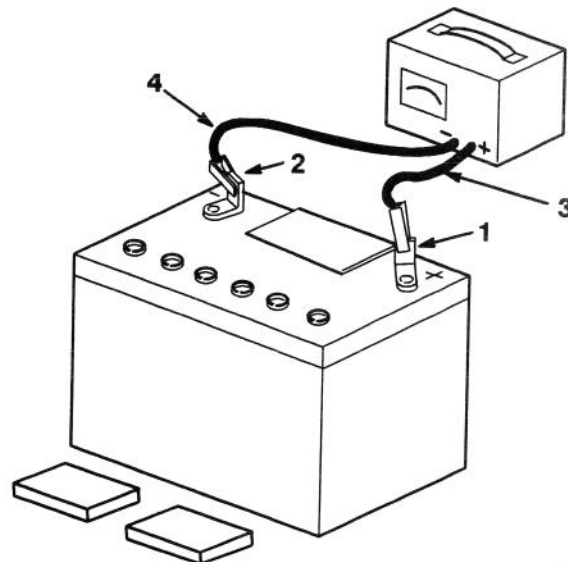

Figure 6
3. Leave the covers off and connect a 3 to 4 amp battery charger to the battery posts (Fig. 6). Charge the battery at a rate of 4 amperes or less for 4 hours (12 volts).
4. When the battery is fully charged, disconnect the charger from the electrical outlet and from the negative and positive battery posts (Fig. 6).